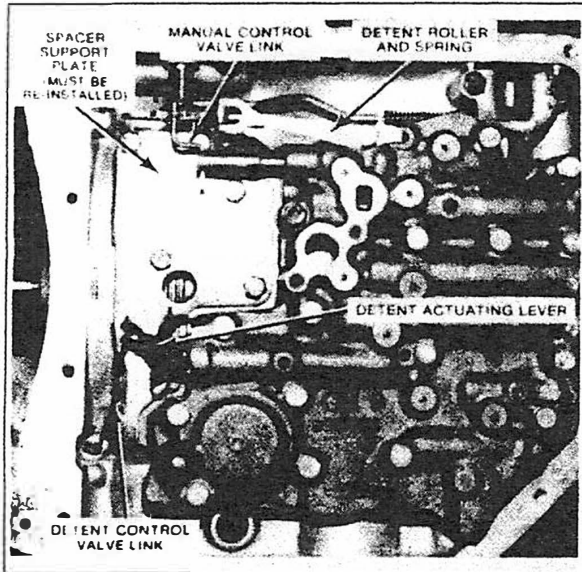
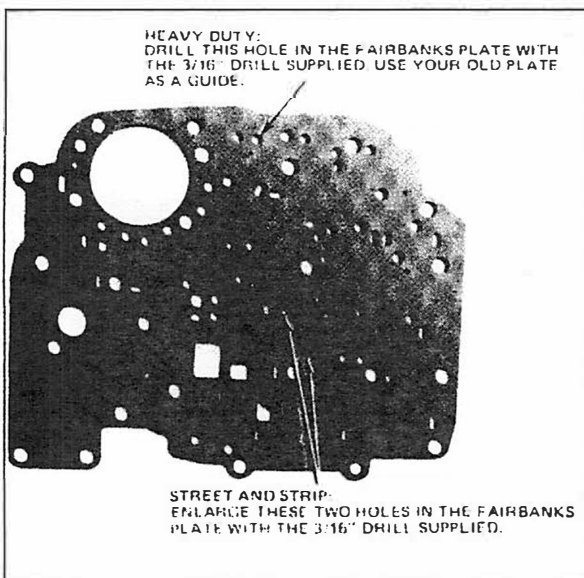

Fig. 1
Fig. 3
1. Remove oil pan attaching bolt and washer assemblies (13), oil pan and oil pan gasket. Discard gasket.
2. Remove oil filter-to-valve body attaching screws (2) and remove oil filter and gasket. Discard gasket.
3. Remove retaining bolt and detent roller and spring assembly from valve body. (Fig. 1)
4. Remove sixteen (16) of the remaining seventeen (17) valve body-to-case attaching bolts, complete draining fluid from transmission and remove last valve body-to-case bolt.
5. While removing valve body assembly, disconnect manual control valve link from range selector inner lever and remove detent control valve link from detent actuating lever on valve body. (Fig. 1 & 2)
7. Remove seven (7) spacer support plate bolts and remove spacer support plate from case.
8. Remove valve body spacer plate and valve body spacer plate-to-case gasket. **BE VERY CAREFUL NOT TO LOSE THE FOUR (4) CHECK BALLS.**
10. **HEAVY DUTY:** Drill a  $\frac{3}{16}$ " hole in the Fairbanks plate as shown in Fig. 3 using your stock plate as a guide.
**STREET AND STRIP:** Enlarge the two holes shown in Fig. 3.
14. Connect detent control valve link to detent valve actuating lever and, while connecting manual control valve link-to-range selector inner lever, install valve body assembly to the posi shift plate; install seventeen (17) valve body-to-case attaching bolts and torque these bolts and seven (7) spacer support plate bolts to 13 ft. lbs. (Fig. 1). Check that the detent actuating lever and shifter move freely.
- IMPORTANT: Check Figure 1. All parts shown should now be installed in your transmission.**
16. Install oil filter and gasket, retaining it with two (2) screws.
17. Install new oil pan gasket and oil pan and torque its thirteen (13) bolts to 12 ft. lbs.